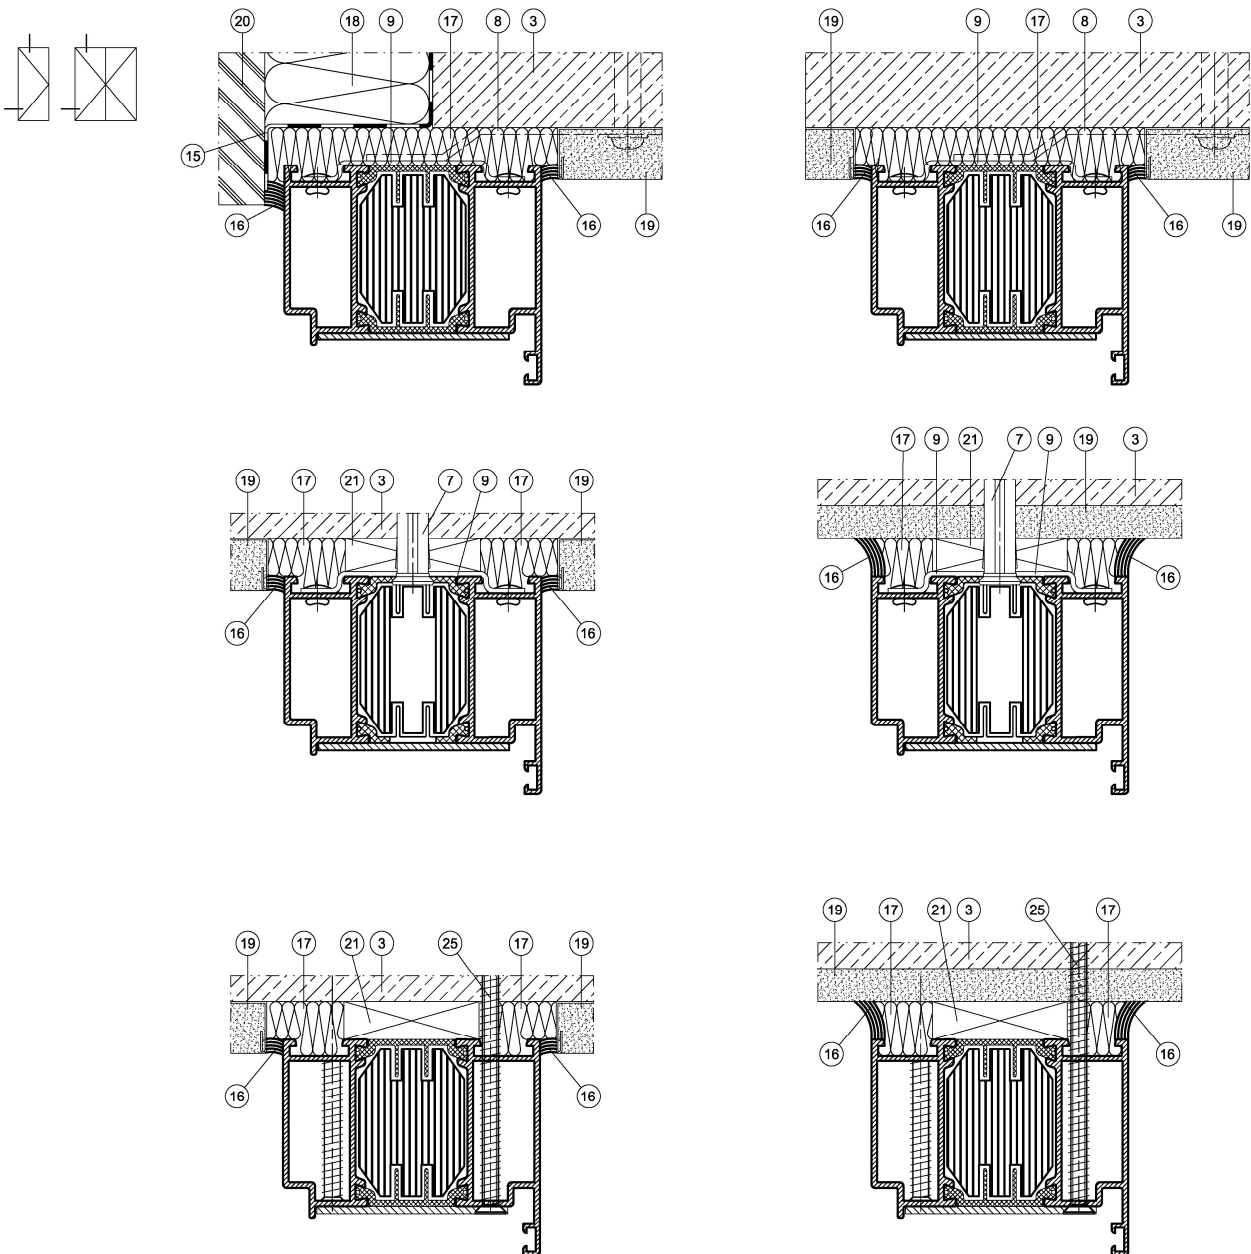

Fig. 19 Sealing variants for door/technical window/door system frame-to-building structure connection
- after this operation, the leaf should be removed and the gaps between the building aperture and the frame/fire wall frame should be filled in as shown in Figs. 19,21,27.
Symbol explanations to Figs. 19, 21, 26, 27